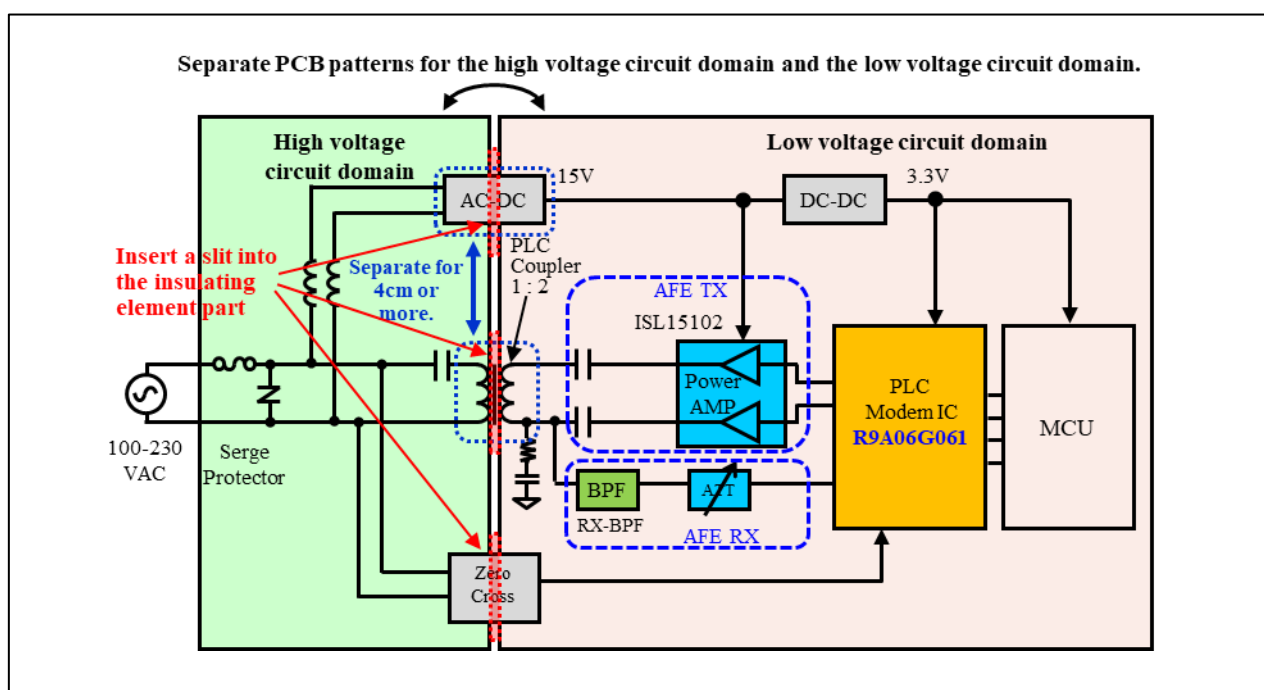

Figure 2-1 Parts Layout for High Voltage Circuit Domains
- The PCB patterns for the high voltage circuit domain and the low voltage circuit domain should be separated as shown in Figure 2-1.